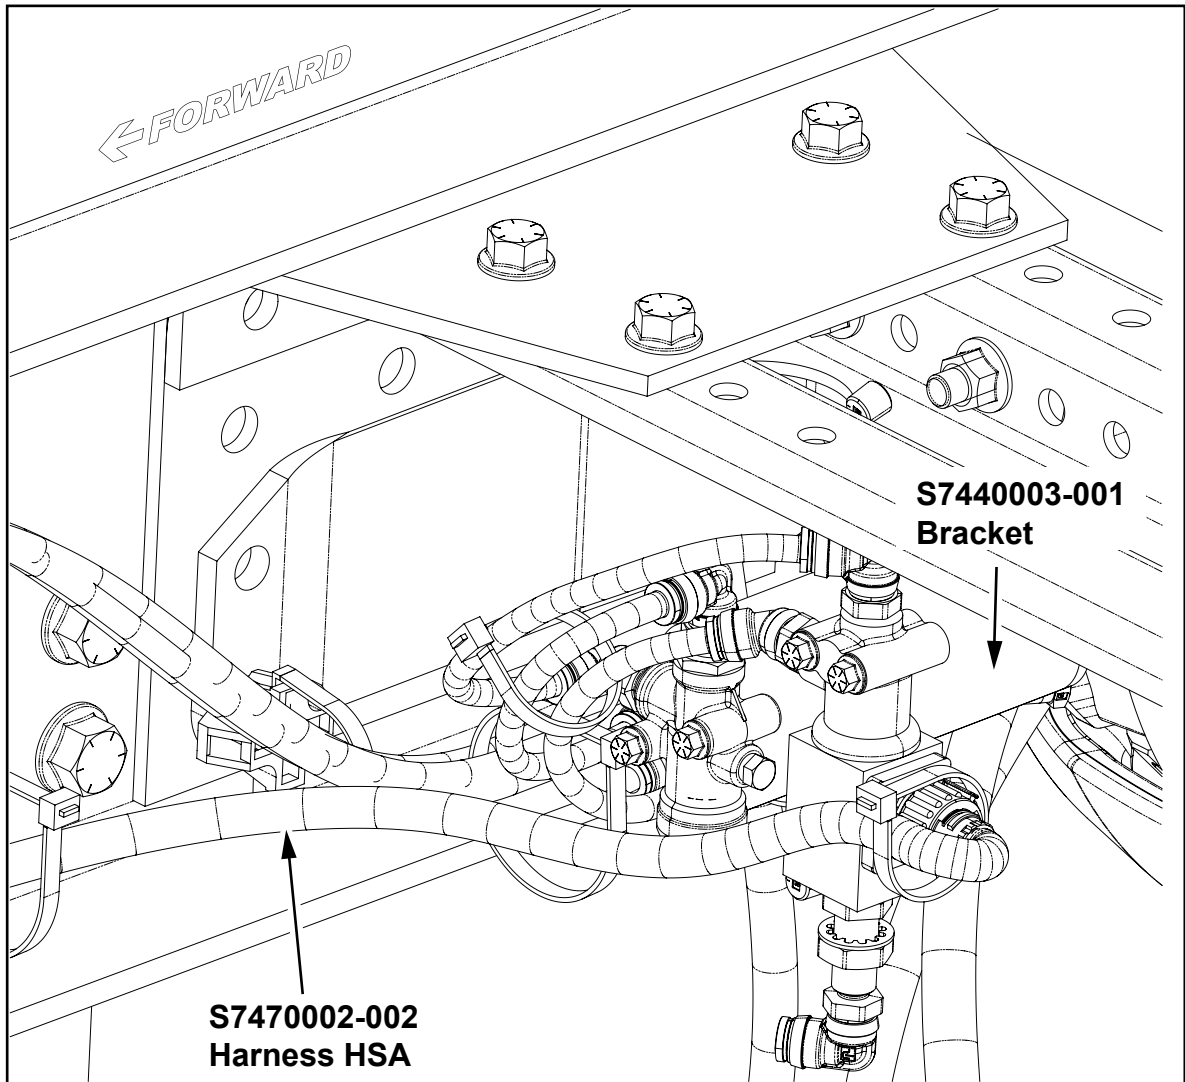

Figure 3
13. Install the S7470002-002 Harness HSA into the right frame rail following proper routing and clipping techniques and connect to the HSA Solenoid (*see Figure 3*)